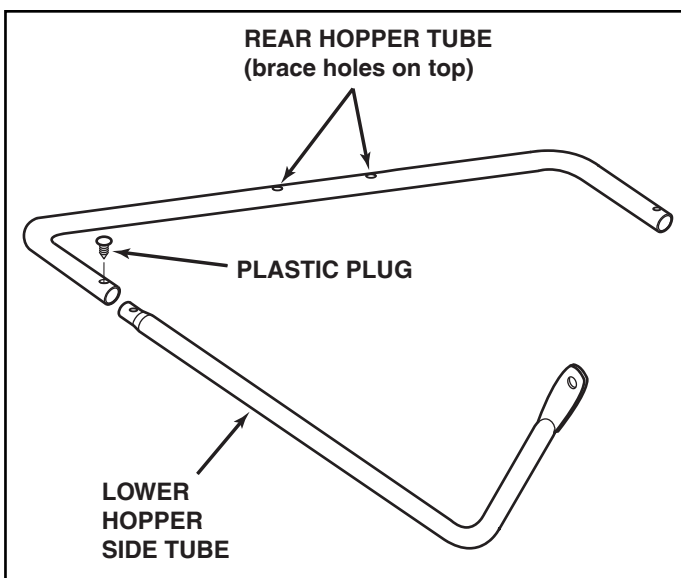

FIGURE 12
- Turn the rear hopper tube so that the brace holes in the middle of the tube **face up**. Assemble the ends of the rear hopper tube onto the ends of the lower hopper side tubes. Fasten together using plastic plugs. See figure 12.